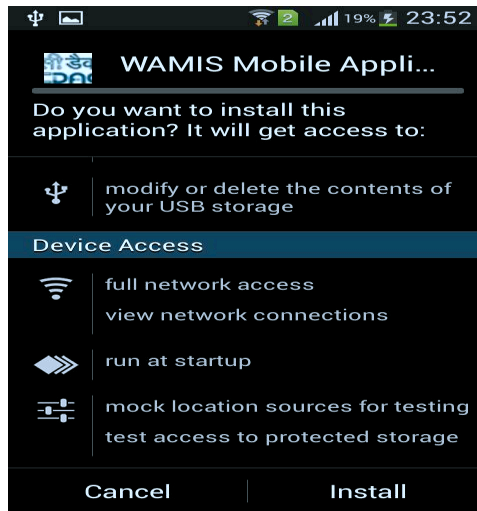

Fig 1.2.2
f. Click on Install button (Fig 1.2.2).